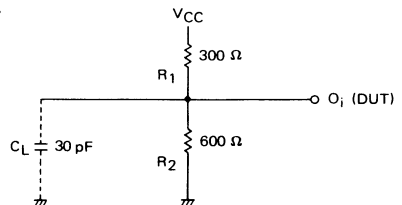

Fig. 1
- Note 1. Output Load: See Fig. 1.
Note 4. C_L in Fig. 1 includes jig and probe stray capacitances.